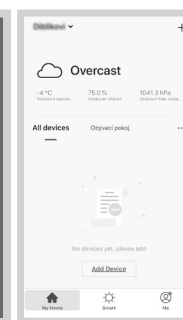

Fig. 7
3. Then press + or “Add device” (Fig. 7) in the application to add a new device.